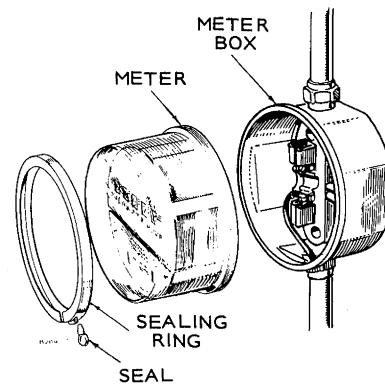

FIGURE 3
- For a round meter box as shown in Figure 3, proceed to Step 8.